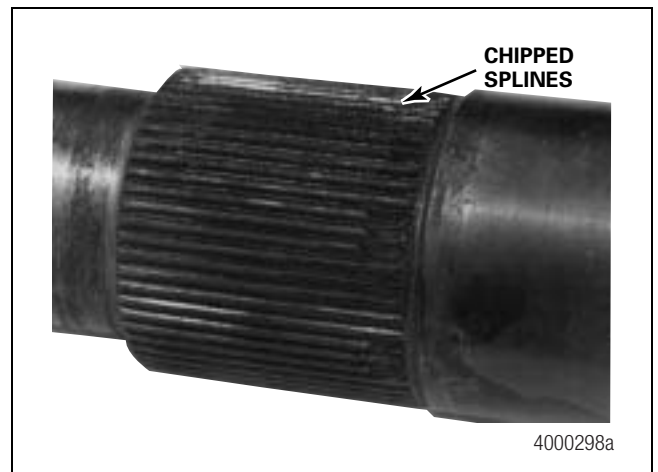

Figure 5.11
- Chipped or cracked splines on the output shaft. Figure 5.11.